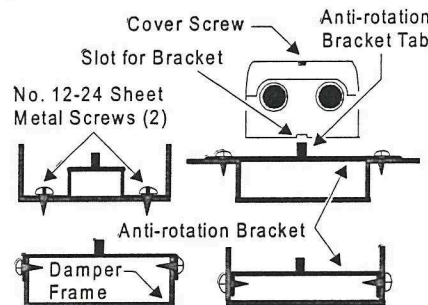

Figure 6: Anti-rotation Bracket Positions
2. Bend or cut the anti-rotation bracket to fit the damper frame or duct as shown in Figure 6.